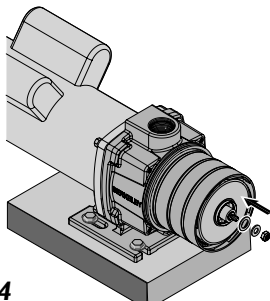

Figure 24
6. Reinstall the toothed washer, the flat washer, and the impeller nut (in that order – Key Nos. 11,12,13) onto the motor shaft (see Figure 24). Hold the shaft and tighten the impeller nut to 12 ft.-lbs. torque.